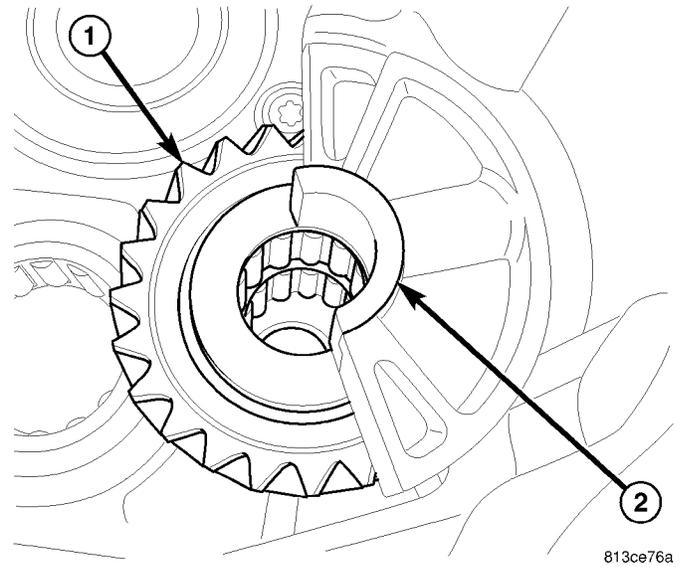

Fig. 88 IDLER SHAFT SUPPORT
(7) Install idler gear (1) (Fig. 88) shaft support (2) into housing.